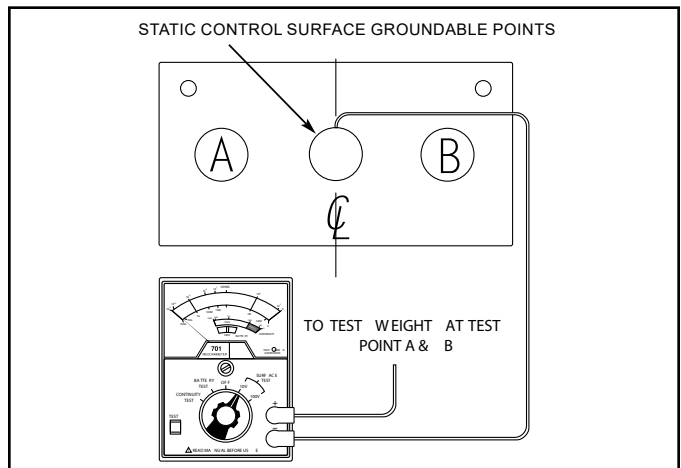

Figure 8. Material Evaluation Surface to Surface Test.
- E. Surface-to-surface Test: Test samples as shown in Figure 8 use both test weights and repeat the same test procedure used to determine (RTS-GP).